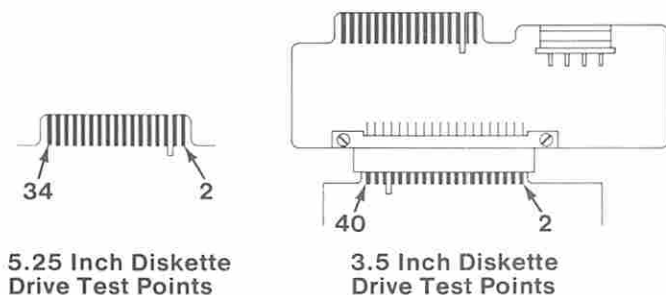

Figure 11. Voltage Check
- Check the voltage at pin 12 on the circuit board of the failing diskette drive (Figure 11 on page 0600-18).